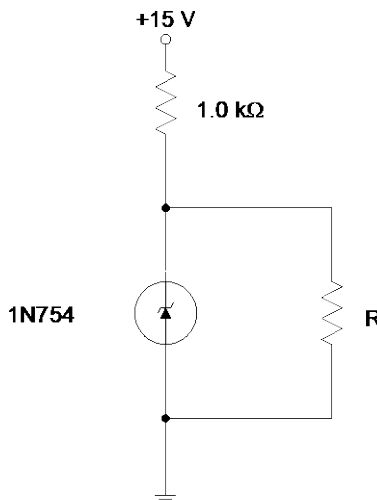

Figure 4: Circuit for Experiment 4.
2. Construct the circuit shown in Figure 4. Measure the voltage across resistor R for R = 10k Ω , R = 1.0 k Ω , and R = 100 Ω . [Q 4.1 What are the values of current flowing through the Zener diode for each of these three resistor values? Be sure to measure the +15V supply first.]
3. Calculate the value of R in Figure 4 for which the Zener diode will no longer provide voltage regulation. Verify your calculation experimentally.